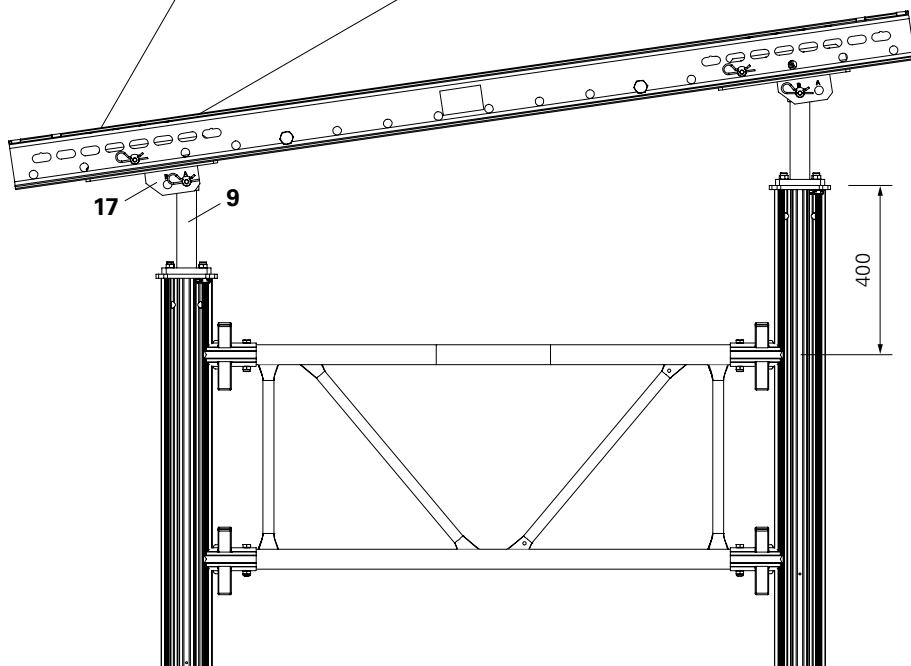

Fig. A6.03
- The Compression Brace Head MP/SRU (9) with Connector MP/SRU (17) is used to brace inclined Beams SRU on shoring towers. (Fig. A6.03)